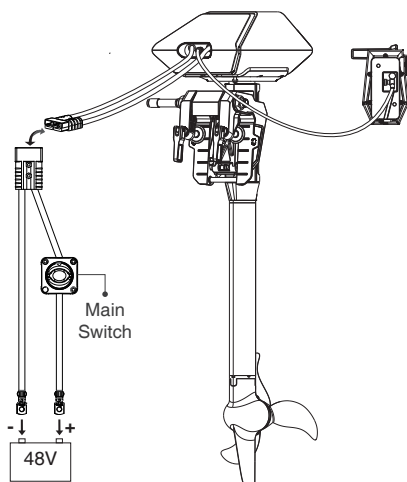
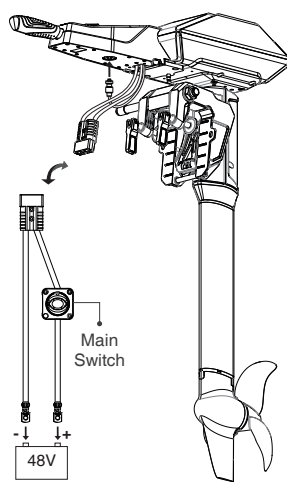

Figure 5-15
Figure 5-16
**Step2:** Connect NAVY outboard and Remote Control/Tiller Handle with a communication cable. Please refer to Figure 5-15 or Figure 5-16.